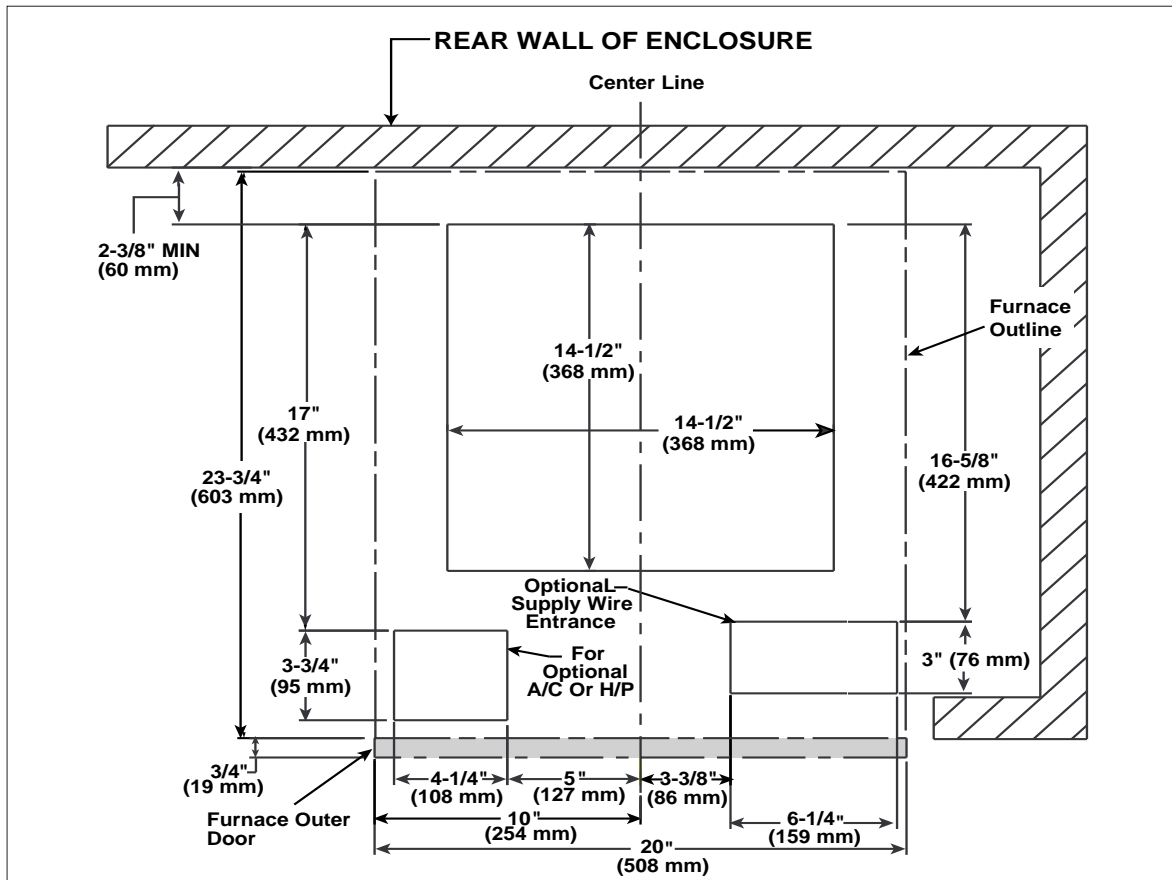

Figure 6. Downflow Floor Cutout Locations (nominal dimensions)
1. Mark floor opening(s) as shown in Figure 6. Provide minimum clearances at rear and right side walls of closet or alcove for installation of furnace and wiring.